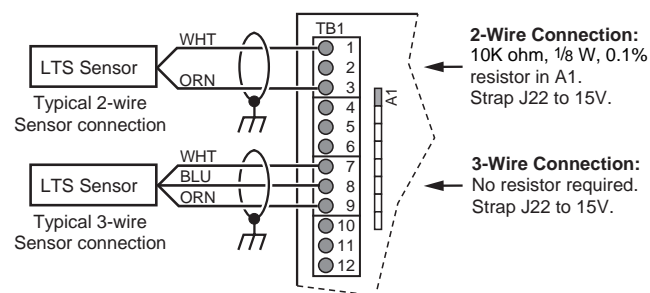
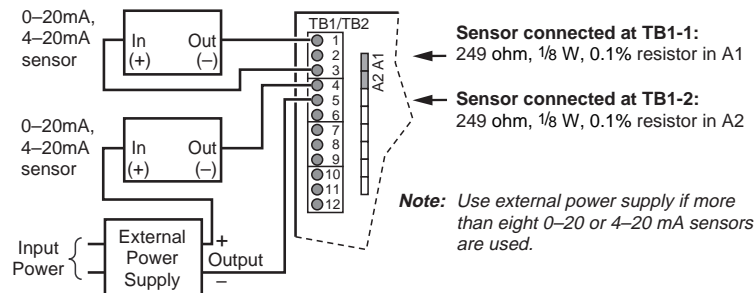
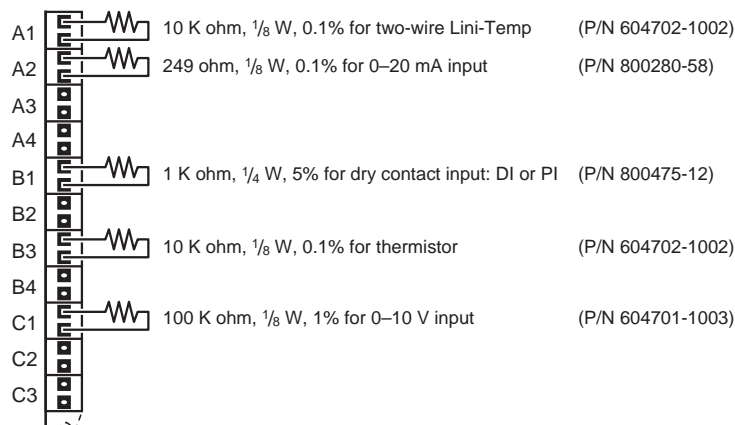

Figure 4. Lini-Temp Input Sensor Connections
Figure 6. 0–20 and 4–20 Sensor Connections
Figure 11. Resistor Installation
Signal inputs are provided along the upper left side in two groups of four inputs. Three screw terminations are provided for each input (Signal, Ground and +15/24 V) as shown in Figure 4. The LTS80 temperature sensors can be connected in a 2-wire or 3-wire configuration as shown in Figure 4. Refer to “Resistor Installation” on page -14 for resistor configuration. The 3-wire configuration does not require a resistor. See Figure 11 on page -15.
3. For 3-wire sensors, connect the blue lead to the GND terminal (see Figure 4).
If you are using a 10K ohm thermistor instead of an LTS sensor, connect the thermistor to TB1 or TB2 on the 7716 base card. If using a UI/AO expansion module connect to TBX1. If using a UI/DO expansion module connect to TBX1 or TBX4. Refer to “Resistor Installation” on page -14 for resistor configuration. See Figure 11 on page -15 for resistor installation.
0–20 and 4–20 milliamper sensors can be connected as shown in Figure 6. Refer to “Resistor Installation” on page -14 for resistor configuration. See Figure 11 on page -15 for resistor installation.
3. Connect the negative (–) terminal of the external power supply to the GND terminal (see Figure 6).
To configure an input for a 10K ohm thermistor, insert a 10K ohm, $\frac{1}{4}$ W, 1% or 0.1% resistor in the corresponding “B” resistor position (1B through 8B). The position numbers (1B–8B) correspond to the inputs 1 through 8 (see Figure 11). For a 1K ohm thermistor, insert a 10K ohm, $\frac{1}{4}$ W, 1% or 0.1% resistor in the corresponding “B” resistor position.
In order to configure an input for 0–20 mA, insert a 249 ohm $\frac{1}{8}$ W, 0.1% current sensing resistor in the corresponding resistor position (1A through 8A). The position numbers (1A–8A) correspond to the inputs 1 through 8 (see Figure 11). For 2-wire Lini-Temp, install a 10K Ohm $\frac{1}{8}$ W, 0.1% resistor in an “A” position. For 0–10 V, install a 100K Ohm, $\frac{1}{8}$ W, 1% resistor in a “C” position. Dry contact inputs (DI or PI) require a 1K Ohm, $\frac{1}{8}$ W, 5% resistor in a “B” position. See Figure 11 for details of installation.